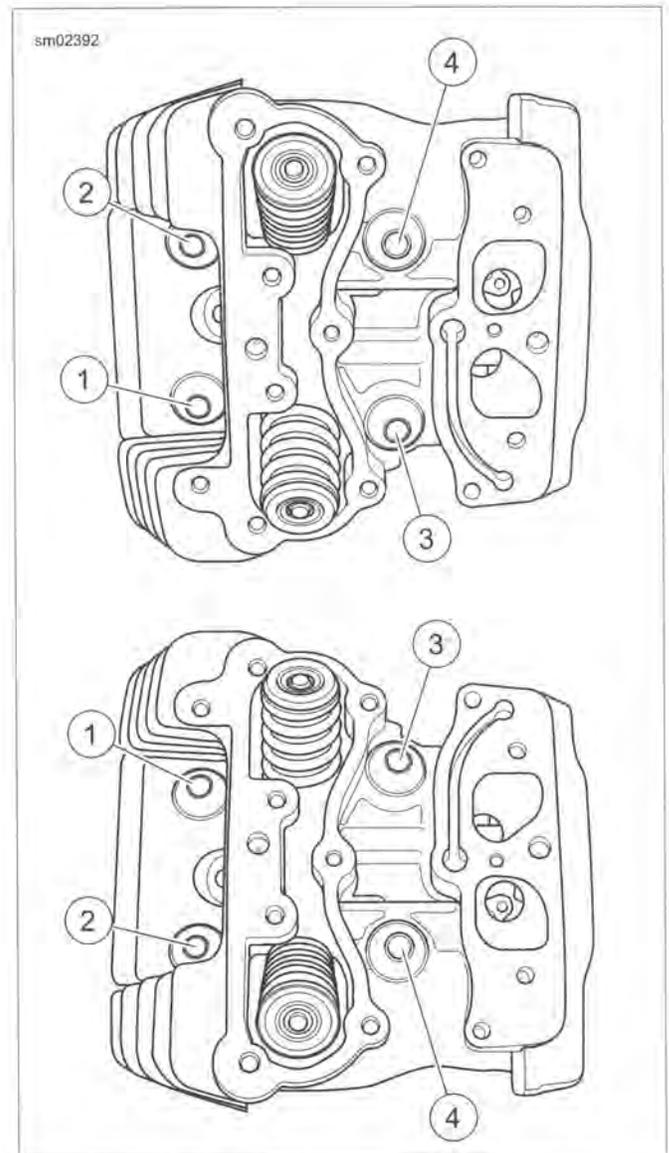

Figure 3-22. 1/4 Turn Head Bolts in Sequence
3. See Figure 3-22. Remove cylinder head bolts: